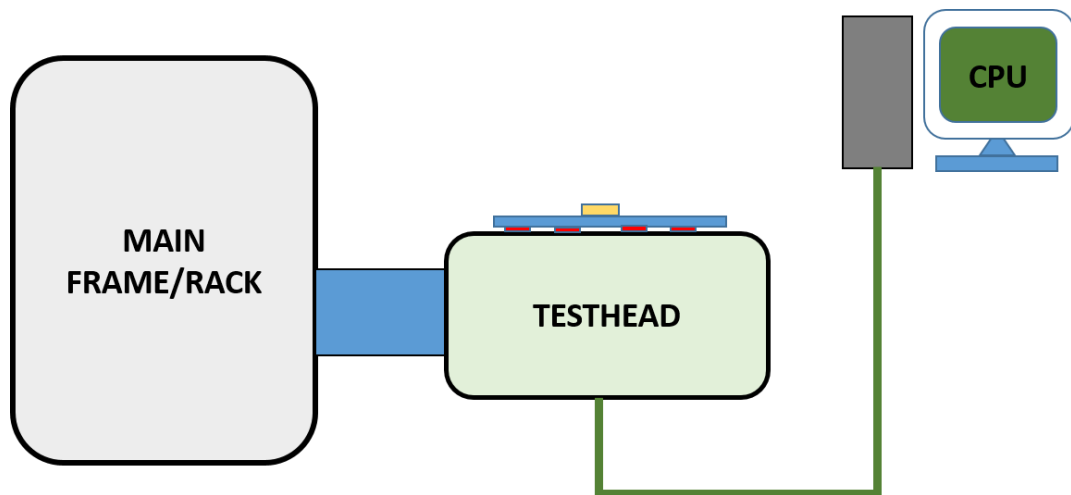

Figure 1.1
- (b) Figure 1.1 shows the components of a Generic Automatic Tester. Explain briefly the components in the tester.